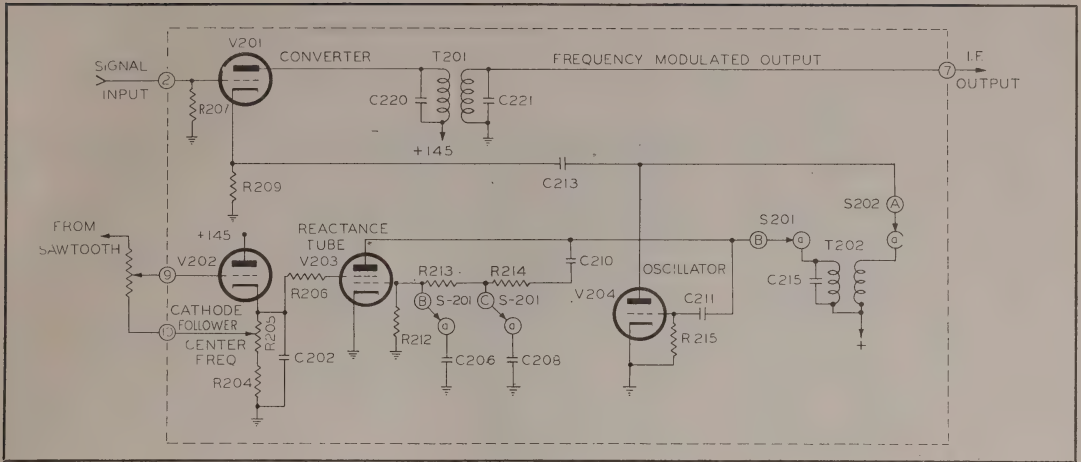

Figure 4-13. Simplified Conversion Network
(1) This chassis includes a frequency modulated oscillator, a reactance tube, an isolating stage (cathode follower), and a converter tube. The oscillator has three tank circuits, one for each channel A, B, and C. (See fig. 4-10.) They are contained in one shield can (T-202). Another can (T-201) contains the i-f input transformer to chassis No. 3 and is located in the output of the converter tube. (See fig. 4-13.)
(2) A sawtooth voltage from the cathode ray tube sweep circuit is introduced into the cathode follower. The output of this cathode follower is fed to the screen